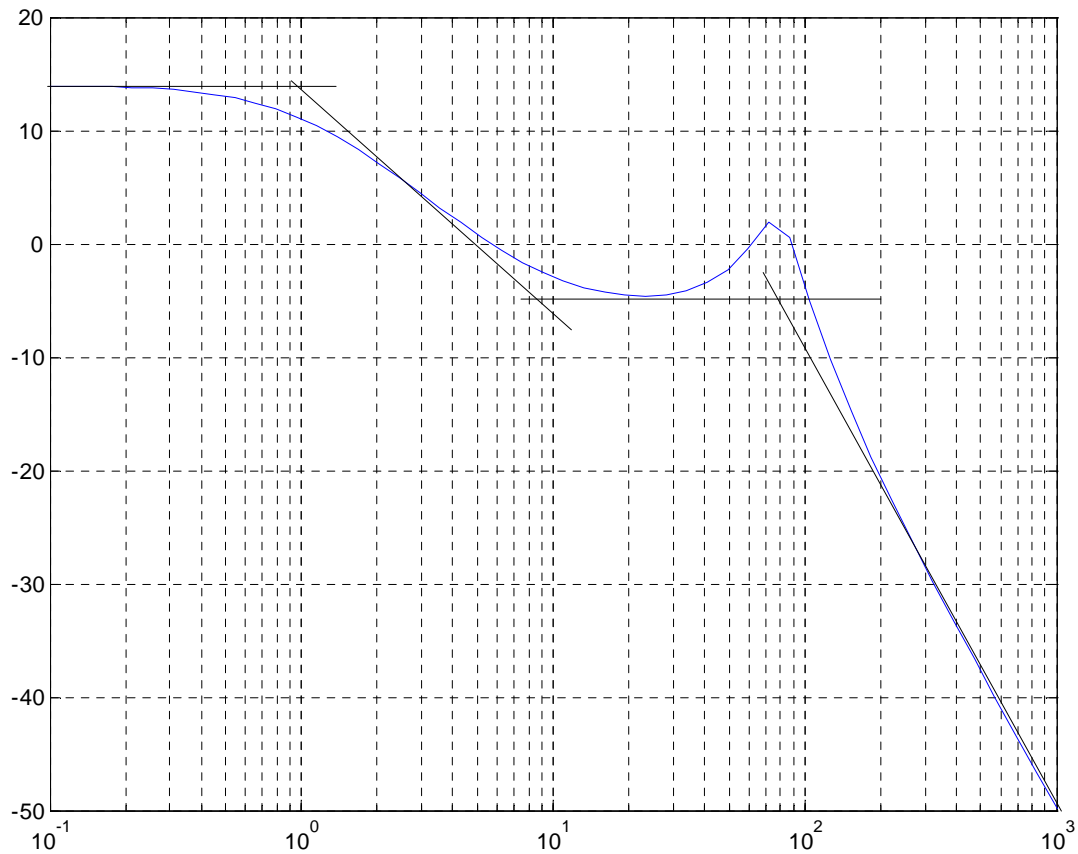

Figure 9.1
9.1 The Bode magnitude plot of a minimum phase system is shown in Figure 9.1. Determine an approximate mathematical model in the form of transfer function for the system.